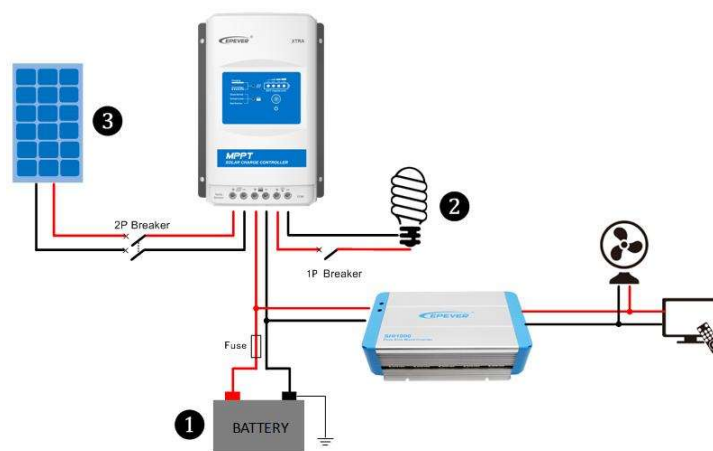

Figure 2-2 Schematic of wiring diagram
Step 2: Connect the system in the order of ① battery → ② load → ③ PV array in accordance with Figure 2-2, "Schematic Wiring Diagram" and disconnect the system in the reverse order ③ ② ①.